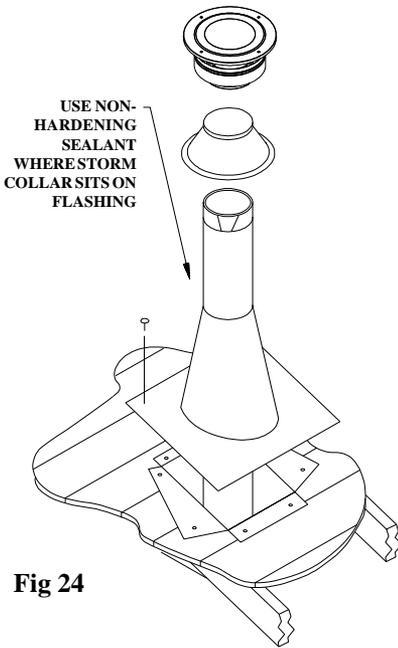

Fig 24
11. Slip the Flashing over the pipe section(s) protruding through the roof. Secure the base to the roof with roofing nails as shown in Figure 24. Insure that the roofing material overlaps the top edge of the Flashing. (Refer back to Fig 2)